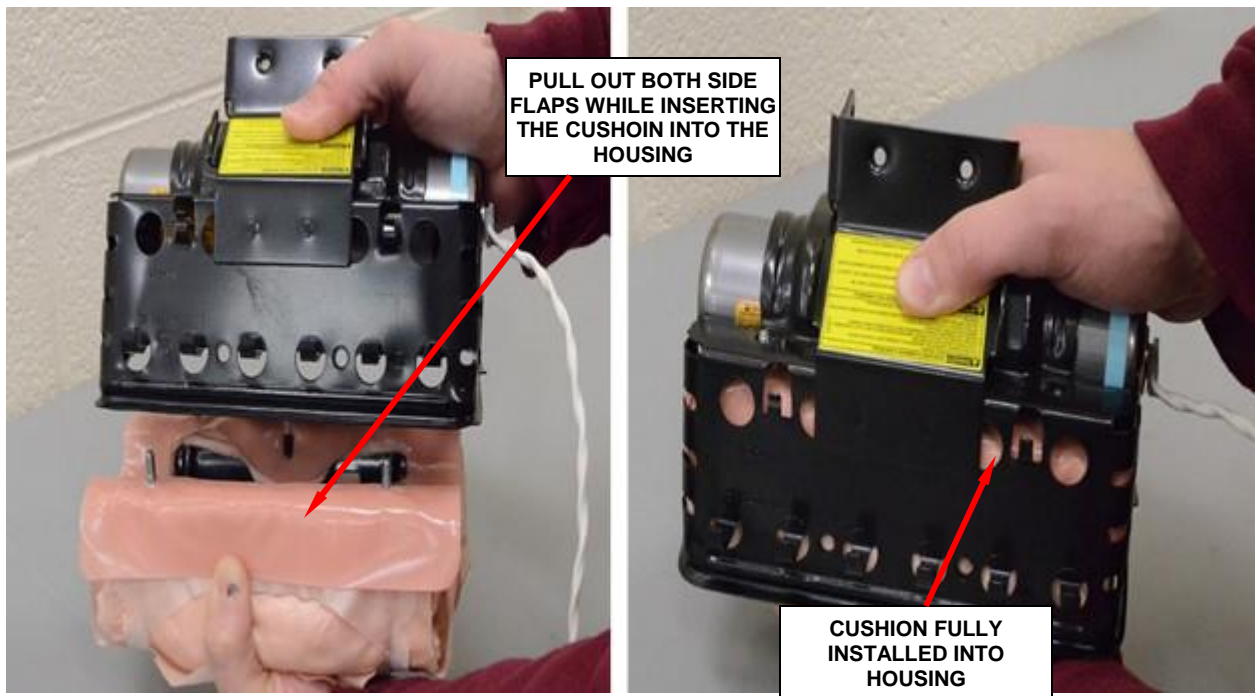

Figure 29 - Side Flaps Must Be Held Out
1. Insert the cushion, pulling out both side flaps (Figure 29).